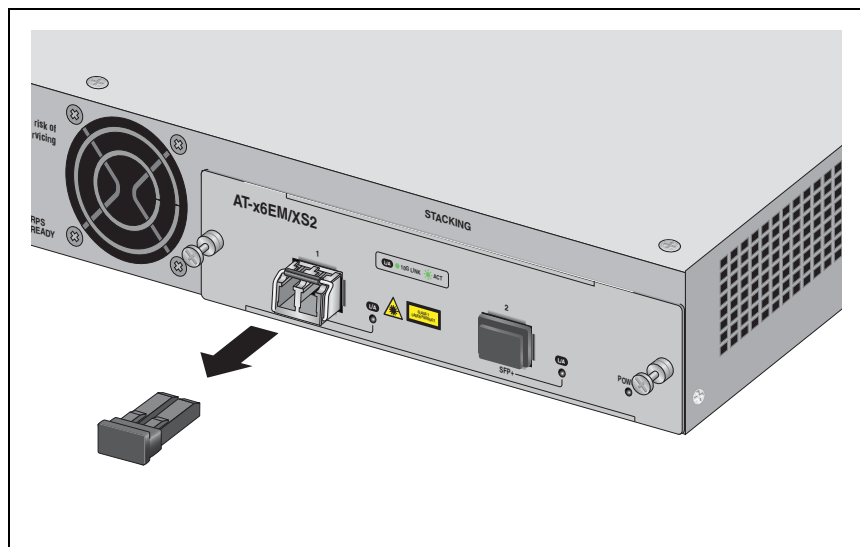

Figure 50. Removing the Dust Plug from an SFP+ Transceiver
6. Remove the dust plug from the SFP+ transceiver, as shown in Figure 50.